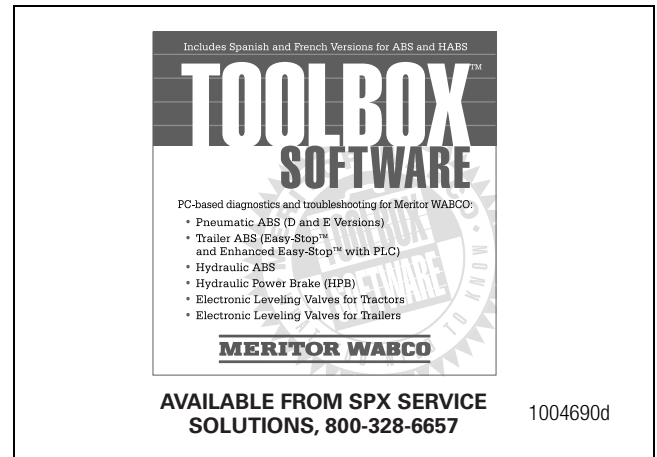

**Figure 1.13**
**ABS modulator valve cables** connect the modulator valve to the ECU. Figure 1.13.